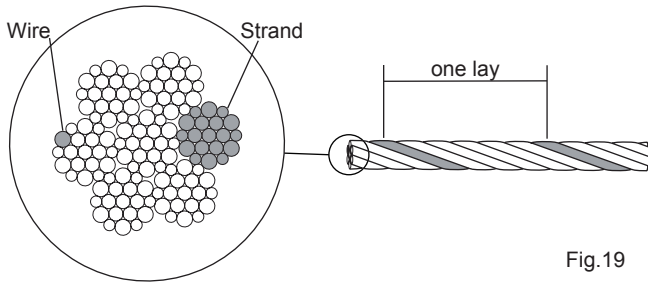

Fig.19
- Note the location and concentration of broken wires. Replace wire rope if more than 6 wires are broken in one lay, or more than 3 wires are broken in one strand in one lay. See figure 19